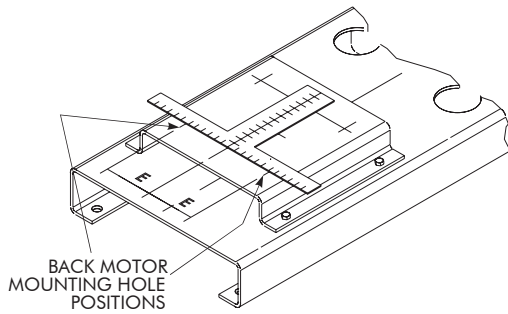

Figure 8D — Layout of Motor Mount Holes on Pedestal
- With a carpenter's square, measure and mark the determined distance perpendicular to the center line to get the back motor mounting hole positions. Repeat step for other side of center line. Reference Figure 8D.